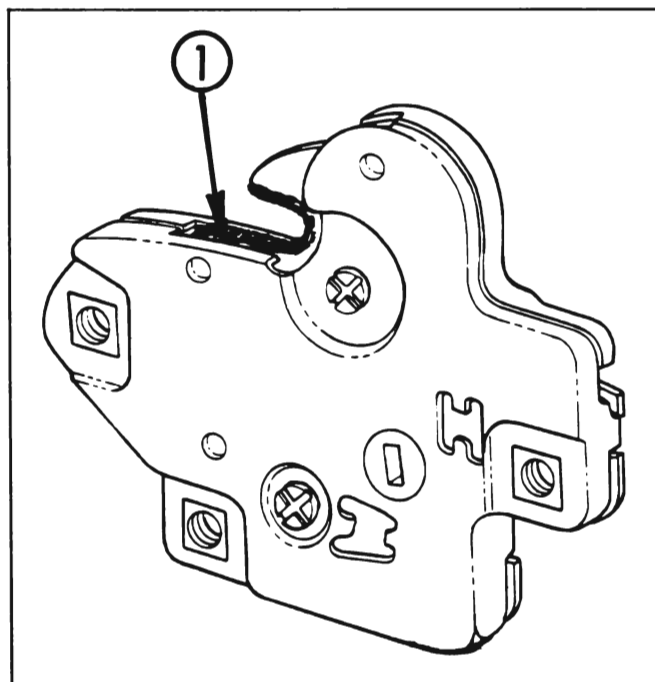

Figure 1-20—Rear Compartment Lid and Tail Gate Locks
9. Rear Compartment Lid and Tail Gate Locks. On rear compartment lid locks, apply a thin film of Lubriplate or its equivalent (Figure 1-20). On tail gate locks, apply a thin film of Lubriplate or its equivalent to the bolt at the striker contact areas.